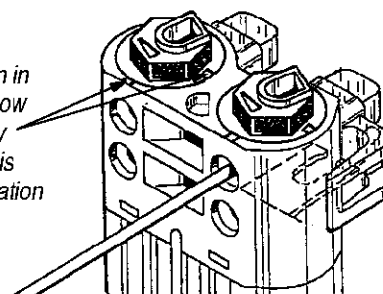

Figure 11
4. Holding wires firmly in place, rotate each lug a quarter-turn CLOCKWISE. Yellow stripes will be fully aligned when lug is closed and termination is completed. See Figure 11.